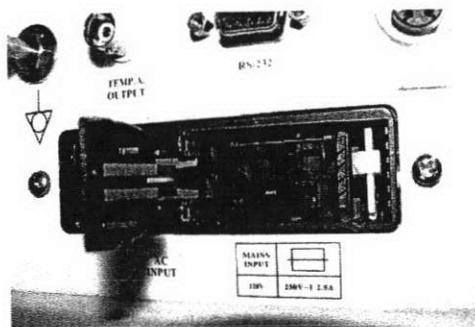

Figure5
8.2.5. Place the fuse holder containing the new fuse(s) back in to the AC Power Inlet Module as seen in Figure 5.